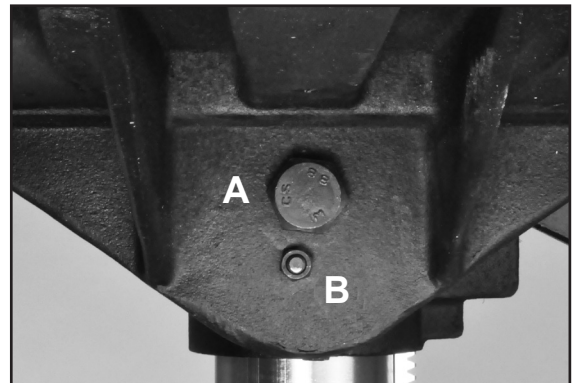

Figure 20
1. Loosen the large bolt (#8A) below the table support arm (Figure 20, A). This requires a 24mm (1") socket or adjustable wrench, not included.
2. The small threaded pin with nut below the large bolt (Figure 20, B) positions the table at 90°. *Tighten* the nut to withdraw the pin from its index hole in the support frame so that the table can be tilted from the pre-set 90° position.